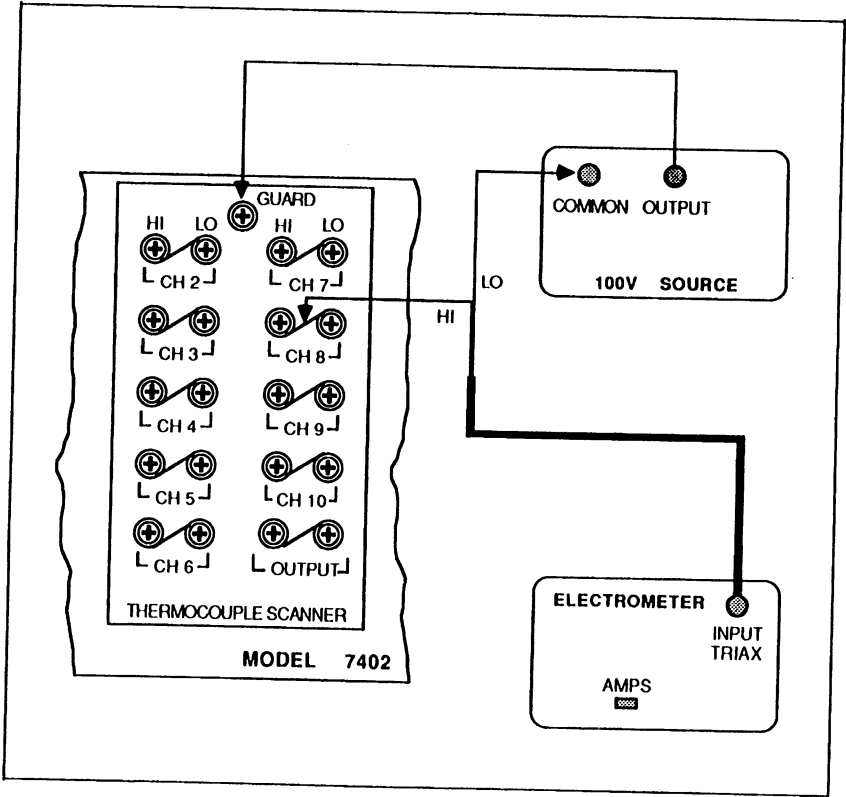

Figure 3-5. Common Mode Input Isolation
1. On the Model 7402, connect a copper jumper between each channels HI and LO terminals. Also short the output HI to LO. Set up the equipment as shown in Figure 3-5 for channel 8.